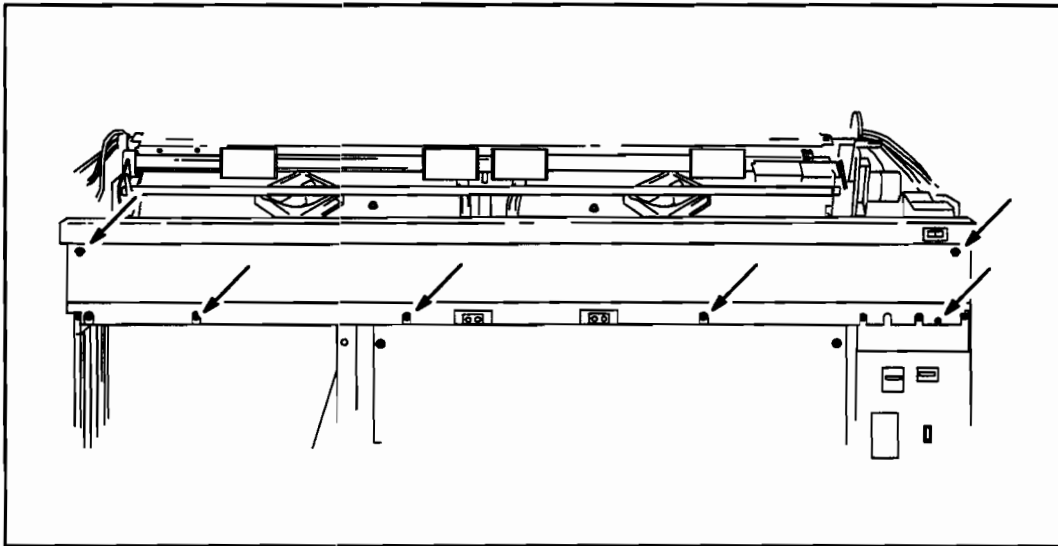

Figure 6-9. Front PCA Shield Removal
4. Using a #2 Phillips screwdriver, loosen the four bottom PCA-shield mounting screws. See Figure 6-9.
5. Using a #2 Phillips screwdriver, remove the top screw at each end of the shield. See Figure 6-9.